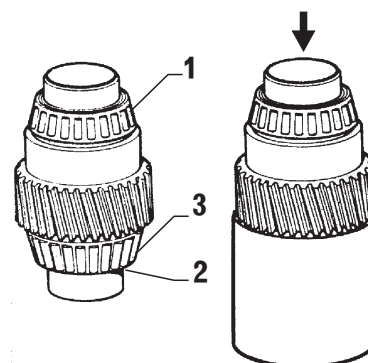

FIG. 7-2b
For extracting the inner races (item 1 and 2, Fig. 7-2b) proceed as follows:
- press output shaft off the gear. Pay attention for pressing-out direction of output shaft Fig. 7-2b.